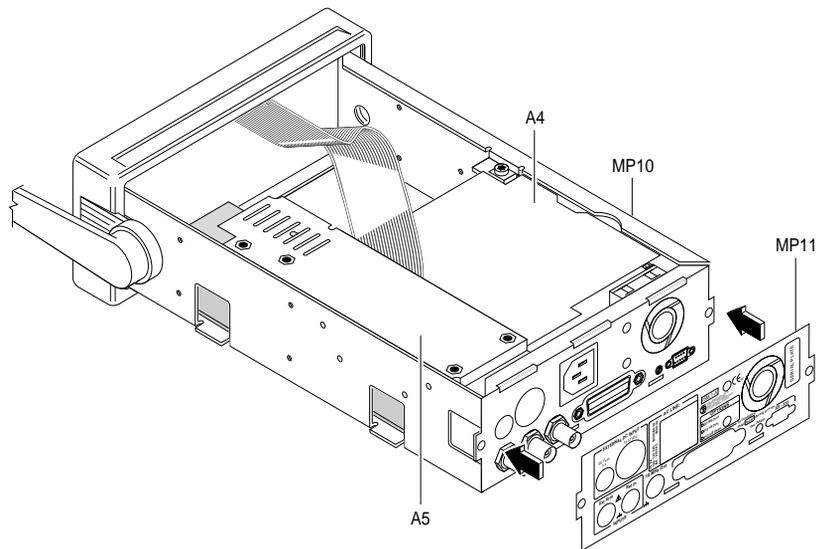

Figure 4-1D. DC Power Input Assembly Retrofitting
- 11 To install the rear label (MP11), remove the protective seal from the back of it and press into place making sure to properly align the label with the holes in the rear of chassis as shown in Figure 4-1D.**